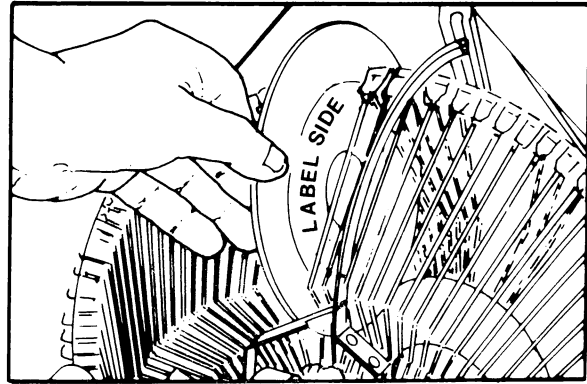

Figure 2-6. Loading A Disk
4. Slide the CD into the slot with the label to the right (figure 2-6).